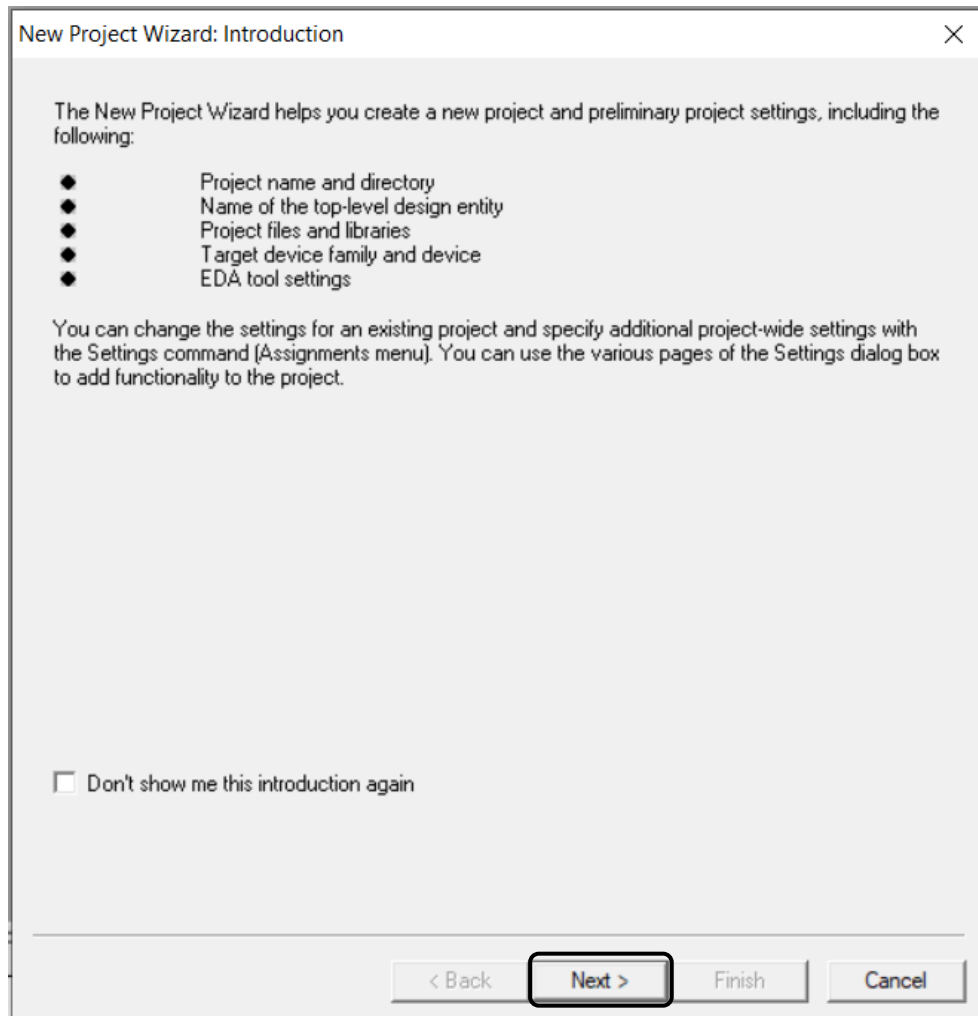

Figure 8.5: First Windows.
- **Step3:** Then the window in Figure 8.5 will be shown, press next for First window.